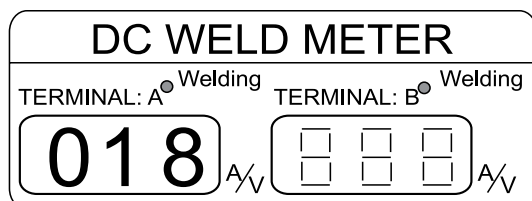

Figure 50. DC Weld Meter (18 VDC)
- The selected voltage will be displayed on the DC weld meter (Figure 50).